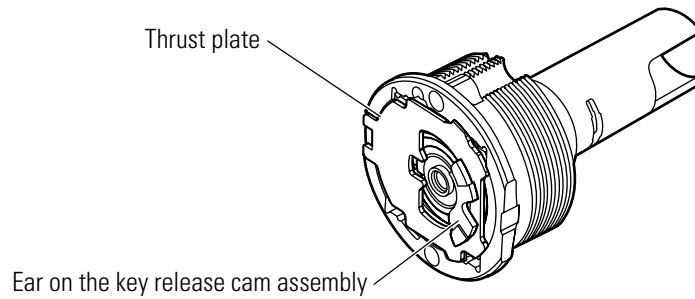

Figure 3.21 Installing the thrust plate
4. Raise the key release cam assembly or non-keyed sleeve assembly slightly, and insert the flat end of the thrust plate under the ears, as shown in Figure 3.21. The plate should be flush with the top of the hub.